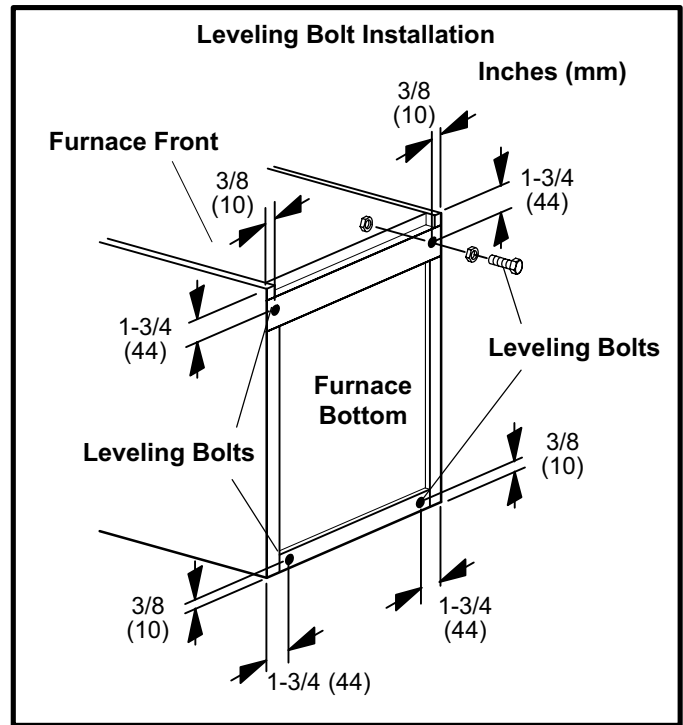

FIGURE 10
When the side return air inlets are used in an upflow application, it may be necessary to install leveling bolts on the bottom of the furnace. Use field-supplied corrosion-resistant 5/16 inch machine bolts (4) and nuts (8). See figure 10. *NOTE - The maximum length of the bolt is 1-1/2 inches.*
- 1 - Lie the furnace on its back and drill a 5/16 inch diameter hole in each corner of the furnace's bottom. See figure 10 for the correct location of the holes. Drill through the bottom panel and the bottom flange of the cabinet.